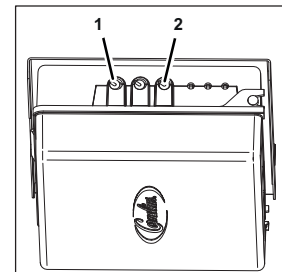

Fig. 87
8. Turn the compressor switch (Fig. 87/2) to position "0".
9. Turn the carbonator pump switch (Fig. 87/1) to position "0".